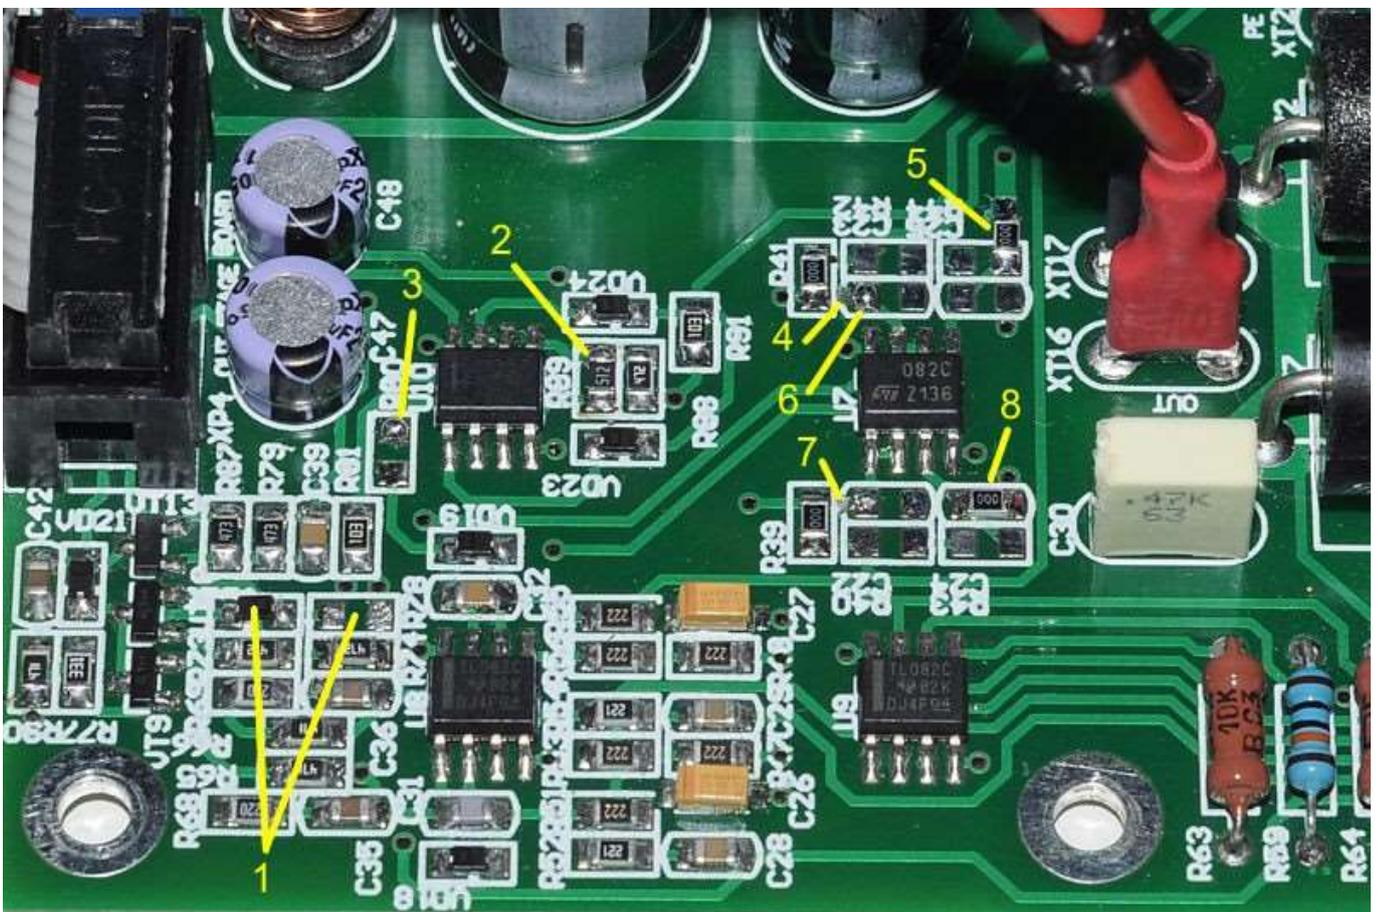

Fig. 4.
6. Remove components VD20, R78 (number 1 in Figure 4). It is enough to remove one of the components, I did not remove the diode. In principle, they are not very disturbing, but there is not much benefit either. Components were introduced to reduce the downward surge that was observed when the voltage was abruptly reduced at some load capacitances. But the emission is very small (about 100 mV), there is no point in fighting.
7. Replace the R89 on the power board with 5.1 k $\Omega$  to correctly detect the status of the incoming output current (number 2 in Figure 4). Here there were disagreements with the simulator, he is too optimistic about the maximum range of voltage at the output of the op amp.
8. To detect the Unregulated status, the input of the U10 comparator (LM358) must be disconnected from the output of the current error amplifier by removing R80 (number 3 in Fig. 4). A hole is drilled on the R80 pad, through which the jumper connecting pin 2 U10 to the GNDA polygon is soldered. Modification is not mandatory, with it the PSU will signal a situation when it is unable to maintain the output voltage (for example, due to a network drawdown).